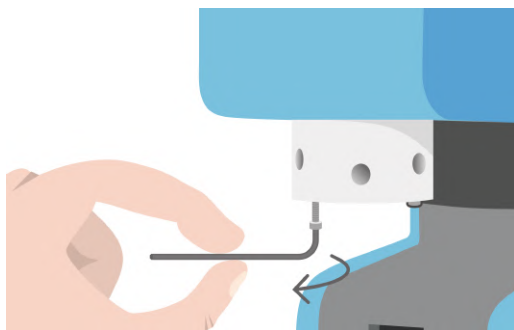

FIGURE 4.15 – Remove the 2 screws holding the valve
2. Remove the valve from the pump. Hold it by hand and unscrew the 2 screws holding the valve, using a hex key (2 mm hex key for 25 - 1000 μ L syringes, 2.5 mm hex key for 2.5 - 5 mL syringes) (see Figure 4.15).